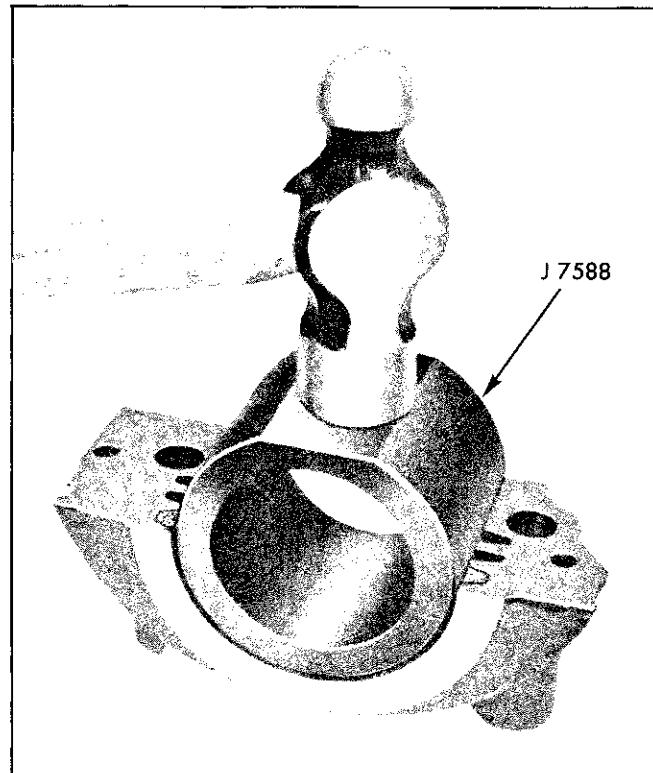

Fig. 6-106 Forming New Seal in Cap
6. Form a new seal in the cap (Fig. 6-106).
7. Remove the newly formed seal from the cap and cut four (4) pieces approximately $\frac{3}{8}$ " long from this seal.
9. Form another new seal in the cap (Fig. 6-106).